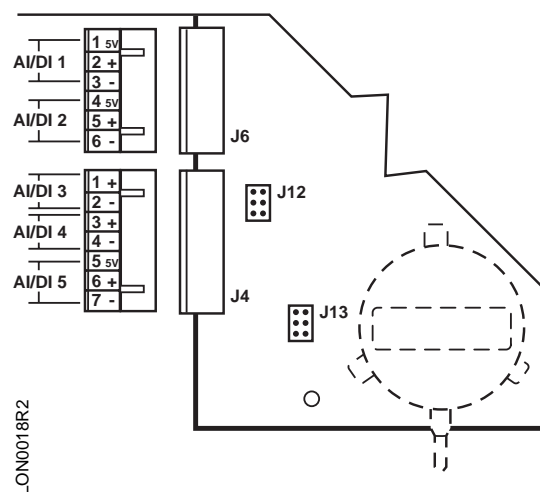

Figure 4. Terminal Designations.
Figure 4 shows the LTEC wiring designations and internal jumper locations for both controllers.
2. See Figure 4 for physical location of internal jumpers and external terminal block connections.